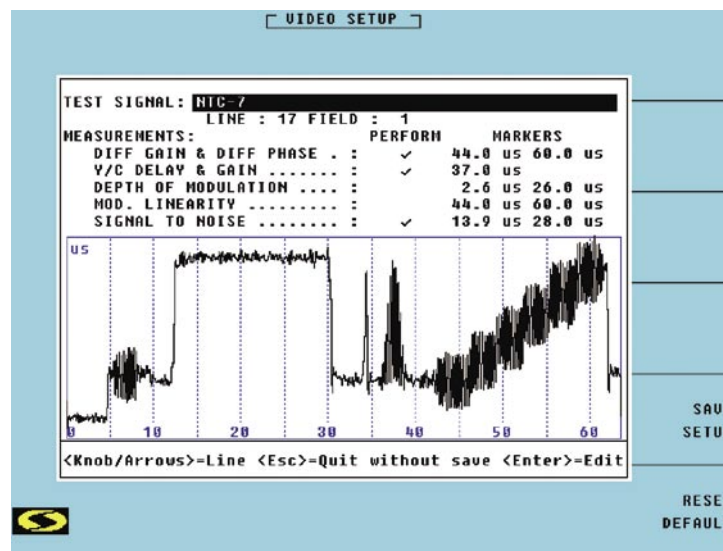

Figure 4
5. The measurement parameters must now be set up. Press the soft key and the screen like Figure 4 will appear. Press the enter key until the appropriate test signal is displayed. In the example in Figure 4, the NTC 7 signal is used.
7. Use the knob to enter get to the perform field on the Y/C Delay and Gain measurement. Make sure that entry is checked as in Figure 4.
8. Use the knob to toggle through the remainder of the parameters screen and choose what measurements are to be performed. In example of Figure 4, Diff Gain, Diff Phase, Y/C Delay and Gain and Signal to Noise will all be performed.